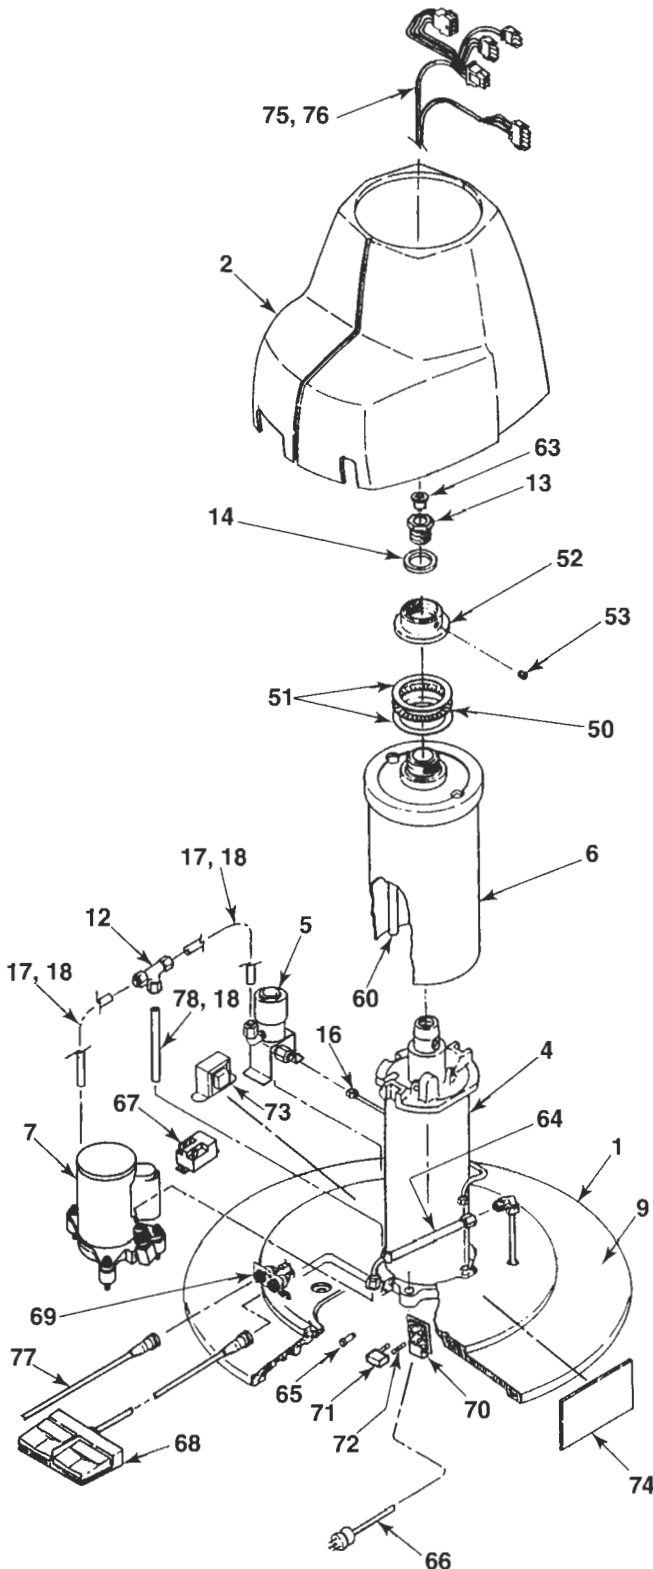

**FIGURE 3.**
There are three adjustments provided on the No. 18 headrest. The first is the tension on the pad rotation. By tightening the two hex acorn nuts on the pad pivots with a 3/8" open end wrench, the tension will be increased. To adjust the drag on the pivots of the articulating arm, loosen the set screw in the center of the pivot with a 3/32" hexagon key wrench (figure 3, item 1). Next, tighten the pivot screw on the other side of the pivot, with a 1/8" hexagon key wrench. Now, retighten the set screw to retain the pivot screw at the new adjustment. Either pivot may be adjusted.
The third adjustment is for the spring plunger at the rear of the lock housing (figure 3, item 2). If the plastic actuator does not readily return to its original position assuring a positive lock, the spring plunger requires adjustment inward (clockwise). If a clicking, dragging noise is apparent when the actuator is fully depressed and the headrest is moved, the spring plunger requires adjustment outward (counter-clockwise).